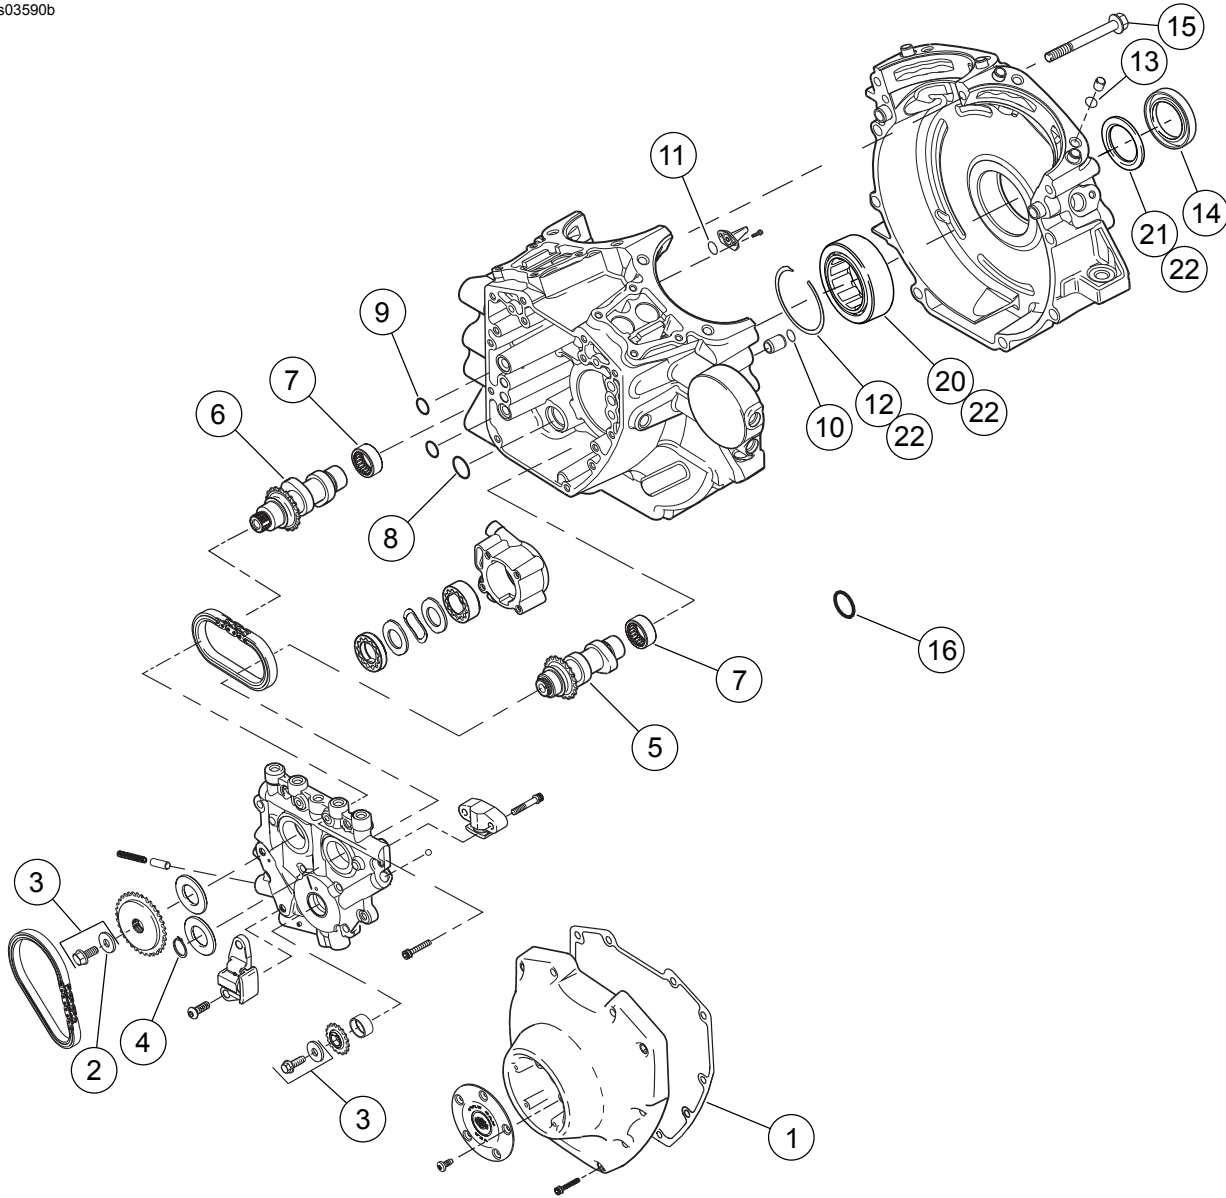

Figure 6. Service Parts: Screamin' Eagle Pro Twin Cam 110 (1800 cc) Conversion Kit
4. See Figure 6. Reassemble engine case with original screws, except the top center screw between the cylinders. Tighten to specifications listed in service manual.
- See Figure 6. Install the top center engine crankcase screw (15) supplied in kit but do not tighten.
1. See Figure 6. Inspect camshaft needle bearings (7) and replace if necessary.
2. See Figure 4 through Figure 6. Assemble engine top end and bottom end using parts from kit. Refer to appropriate sections in service manual or instructions in supplied subkits.